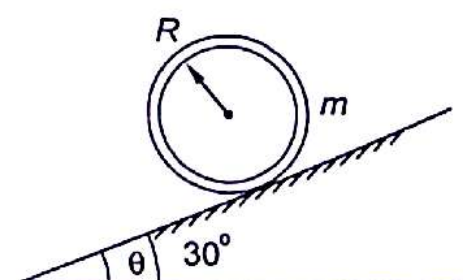

Fig. 17.15
- 17.2 A hoop of mass m and radius R is rolling down on inclined plane without slipping. Angle of inclination of plane is 30° . What is linear acceleration of center of hoop (Fig. 17.15)?